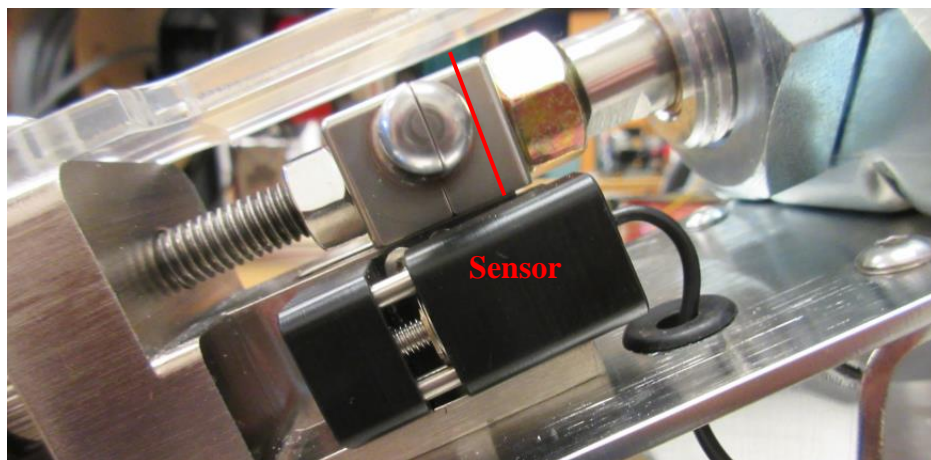

Figure 6: Photo-sensor line of sight
- The CRD222 is designed to be used with a photo-sensor that will automatically sense the presence of tubing over the jaws. The sensor is aligned against the tangent of the jaw as shown in figure 6 below: